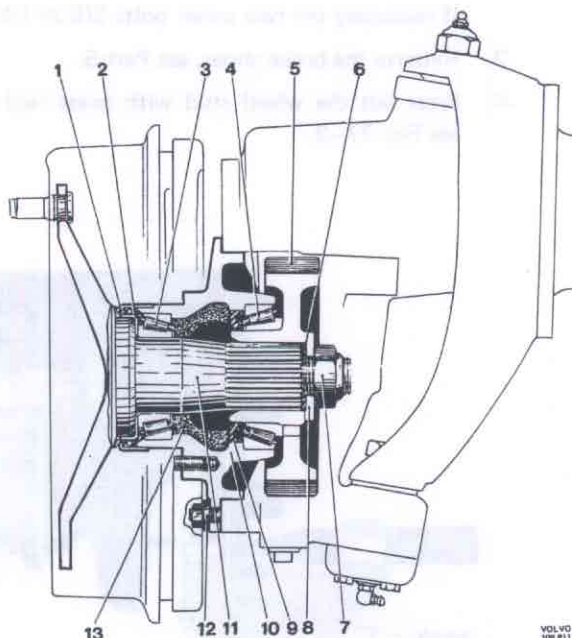

Fig. 77-1. Hub
The front wheel and rear wheel hubs (Fig. 77-1) are of the same type. The stub axle (11) is journalled in the hub (10) by means of two tapered roller bearings (3 and 4). Oil sealing is provided by a sealing ring (1), which seals against a wear ring (2) and against the stub axle, as well as a sealing ring (9) which seals against the gear wheel (5).
1. Knock up the lock ring on the nut (7, Fig. 77-1) with a hammer and drift and unscrew the nut. Remove the washer (8) and the O-ring (6).